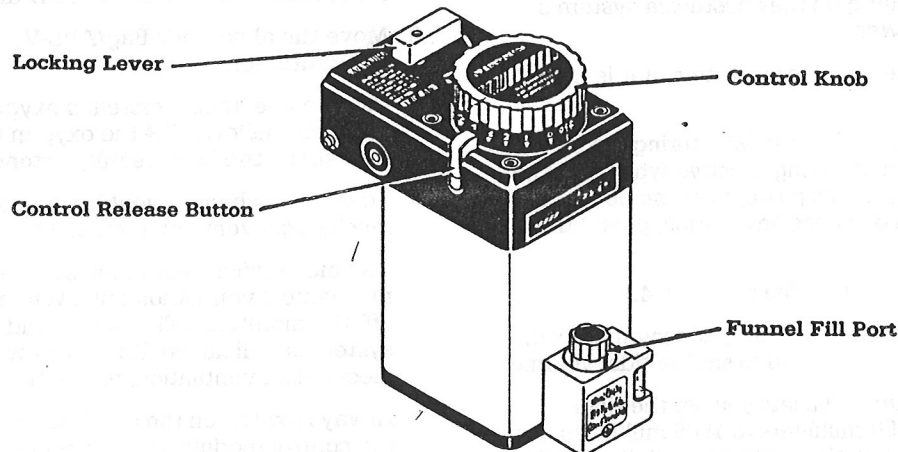

Figure 5-12
4. Press the vaporizer's control-release button and turn the dial to the setting you want to use. (See figure 5-12.)